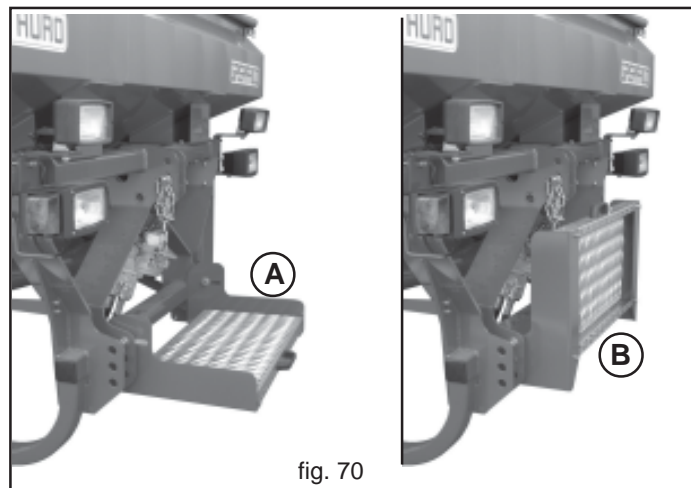

fig. 70
In the event of manual loading, use the platform (A, Fig. 70) to reach the hopper of the equipment.
Always fold the platform as shown in Figure 70 (B) during the work and during road transport.